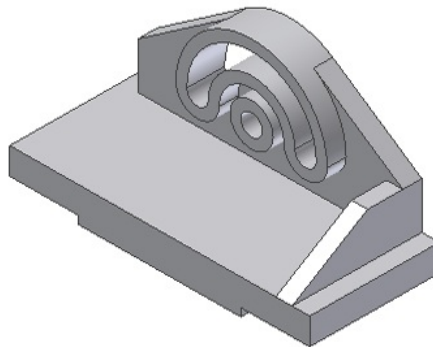

Figure 6-125 Model after creating the rib
5. Choose **OK** to exit the **Rib** dialog box; the rib is created, as shown in Figure 6-125.